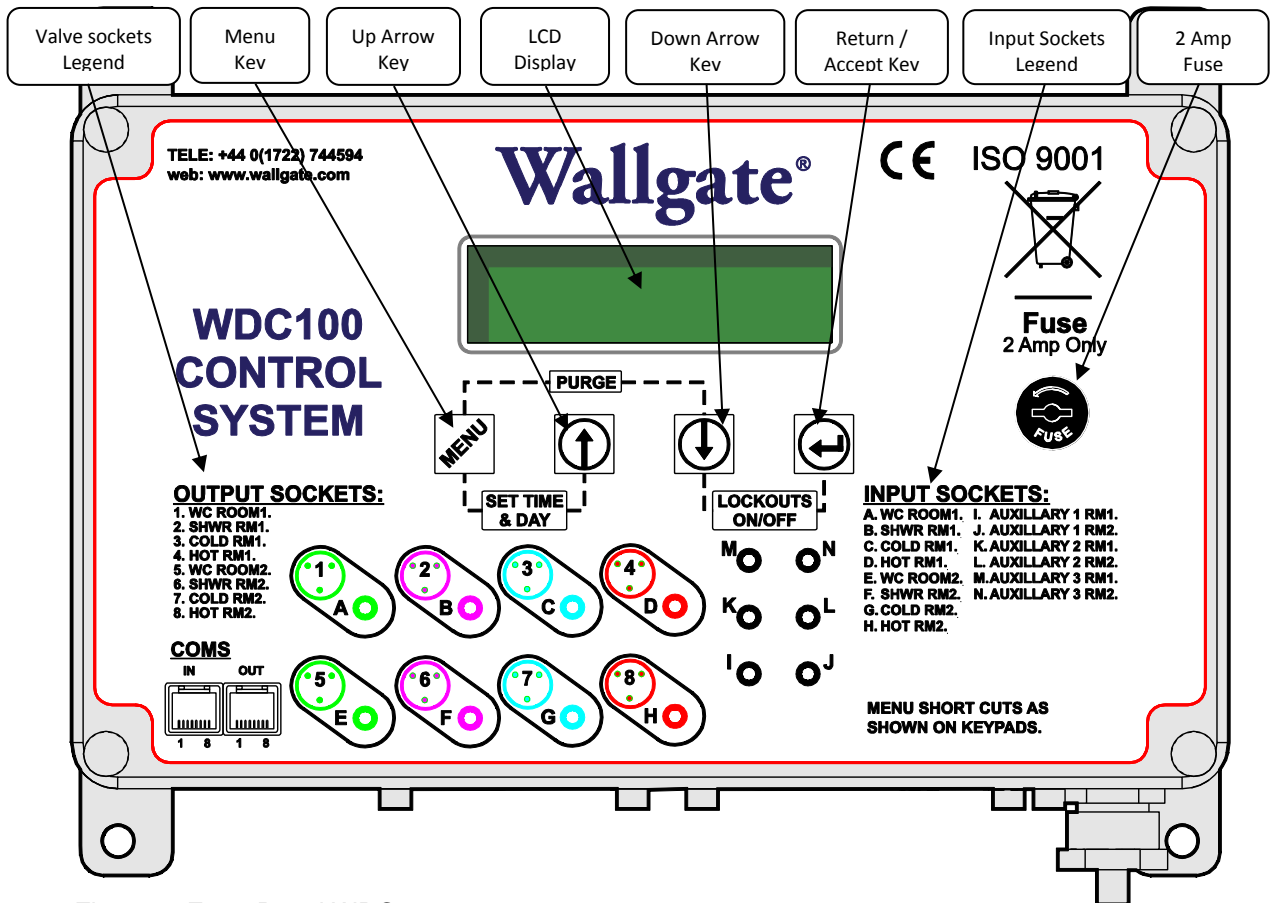

Figure 3. Front Panel WDC200
Refer to figure 3 below for an illustration of the WDC200 front panel.
- 4 Start the Purge Cycle by pressing and holding down the  and  keys simultaneously for five seconds. Refer to figure 3 on page 16 for a picture of the front panel.